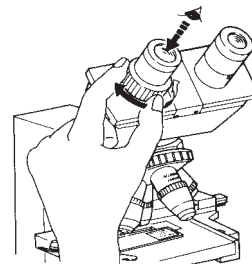

Fig. 4.7
- Focus the image with the left eye by looking into the left eye-piece by turning the diopter ring (Fig. 4.7).